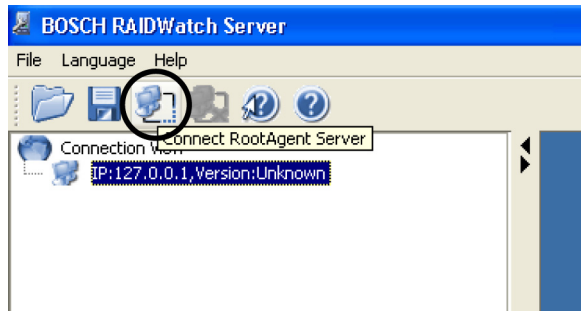
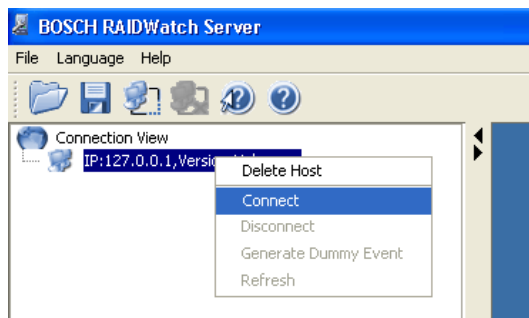

Fig. 4.5 Connect Commands
Fig. 4.6 Connect Commands
3. The connected IP displays on the left of the Connection View window. Select the IP and click the *Connect Root Agent Server* icon (see *Figure 4.5*) or right-click on the displayed IP to display the *Connect* commands. (See *Figure 4.6*)